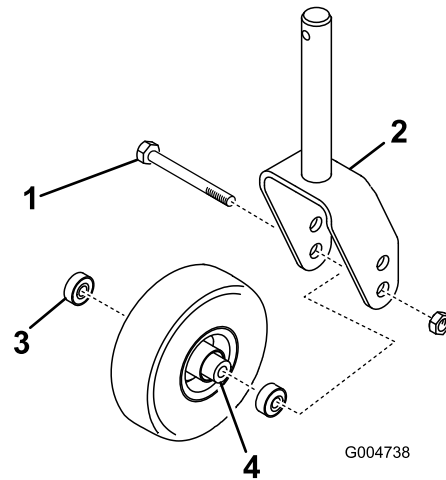

Figure 97
2. Remove the bearing from the wheel hub and allow the bearing spacer to fall out (Figure 97). Remove the bearing from the opposite side of the wheel hub.
1. Remove the locknut from the bolt holding the castor wheel assembly between the castor fork (Figure 97) or